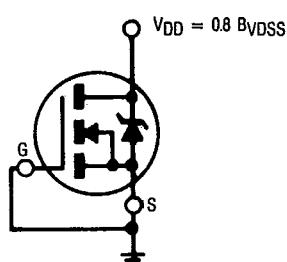

Fig. 11b —  $V_{DSS}$  Stress Equals 80% of
12 volt  $V_{GSS}$  steady state bias is a worst case condition for the "on-state" parameters of the device (eg.  $V_{GS(th)}$ ,  $R_{DS(on)}$ ,  $g_{fs}$ , etc.). The second test circuit biases the drain electrode with respect to the source and gate electrodes at 80% of the rated  $BV_{DSS}$  (pre-radiation) (fig. 11b). The steady state  $V_{DSS}$  bias equal to 80% of the rated  $BV_{DSS}$  (pre-radiation) is considered a worst case condition for  $BV_{DSS}$  (post-radiation).
⑦ High Total Dose Irradiation with  $V_{DS}$  Bias.  $V_{DS} = 0.8$  rated  $BV_{DSS}$  (pre-radiation) applied and  $V_{GS} = 0$  during irradiation per MIL-STD-750C, method 1019. (See figure 11b)